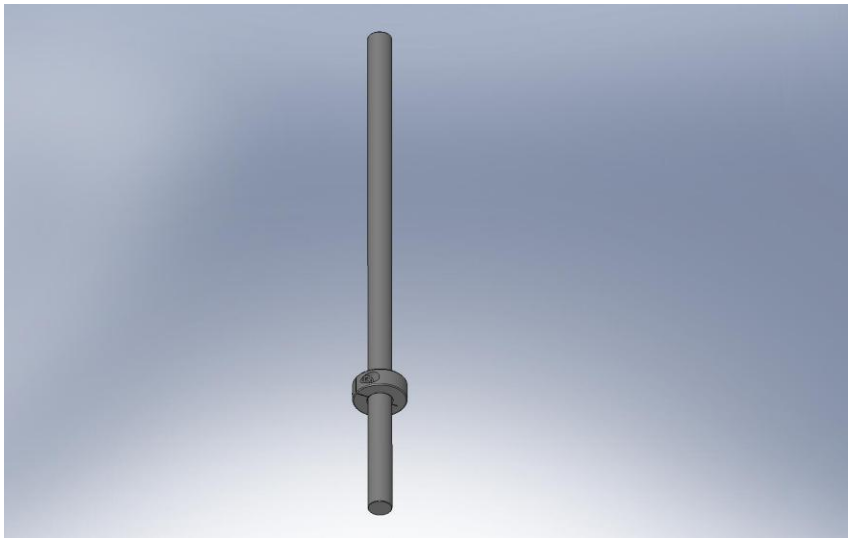

Figure 3.105. Place shaft collars toward the bottom end of (3) 1/2"x12" long dowel pins. These will help orient the Optical Table to the Stage 1 Ribs.
- Place a 1/2" shaft collar (McMaster-Carr #9421T700) on one end of each of (3) 1/2"x12" steel shafts (McMaster-Carr #6253K52). Leave about 2.75" of the shaft below the collar, and clamp the collar in place. See Figure 3.105.